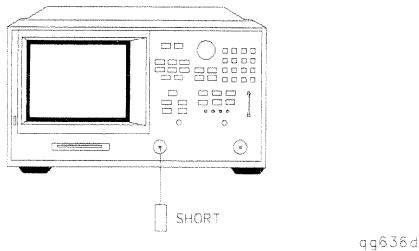

Figure 4-2. Operator's Check Setup
1. Connect a short to port 1 of the analyzer as shown in Figure 4-2.